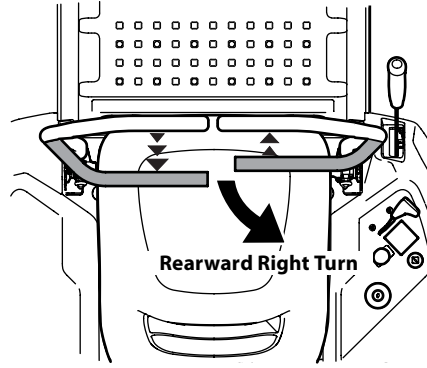

Figure 3-9
2. To turn to the right while traveling in reverse, move the right drive control lever forward of the left drive control lever. See Figure 3-9.